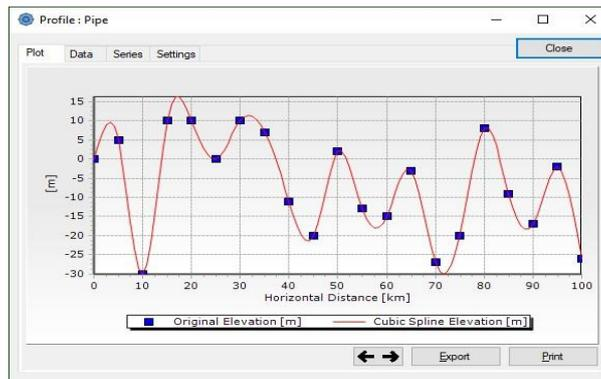

Figure 9: Trunkline elevation profile
- Click on **Plot** and the window shown in Figure 9 will appear. This is a graphical representation of the elevation of the trunkline over its length. The plot can be enlarged, modified, exported, or printed via the tabs and buttons.